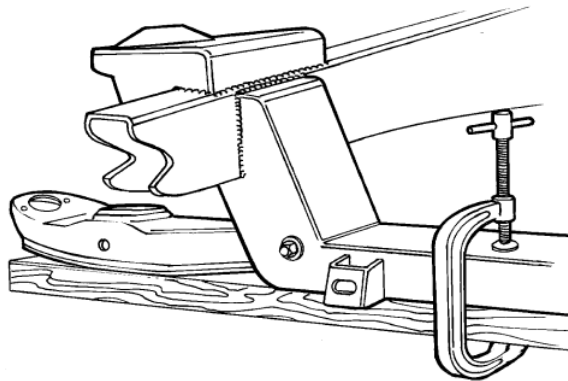

Figure 7- Install Lower Control Arms
9. If you are using factory lower control arms and strut rods you will continue here. Use the lower control arm and strut rod for locating the rear strut rod supports and gussets. Using a 2 x 4 and a C-clamp, install the control arm as shown in **Figure 7**.